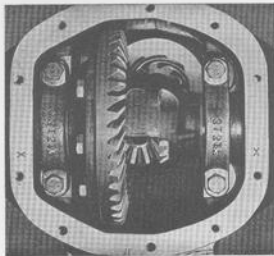

Fig. 4-155. Alignment marking on cap and carrier
5. Check the alignment markings on the cap and carrier, see Fig. 4-155. If there are no markings, or if they are difficult to see, mark one side with a punch. Remove the cap.